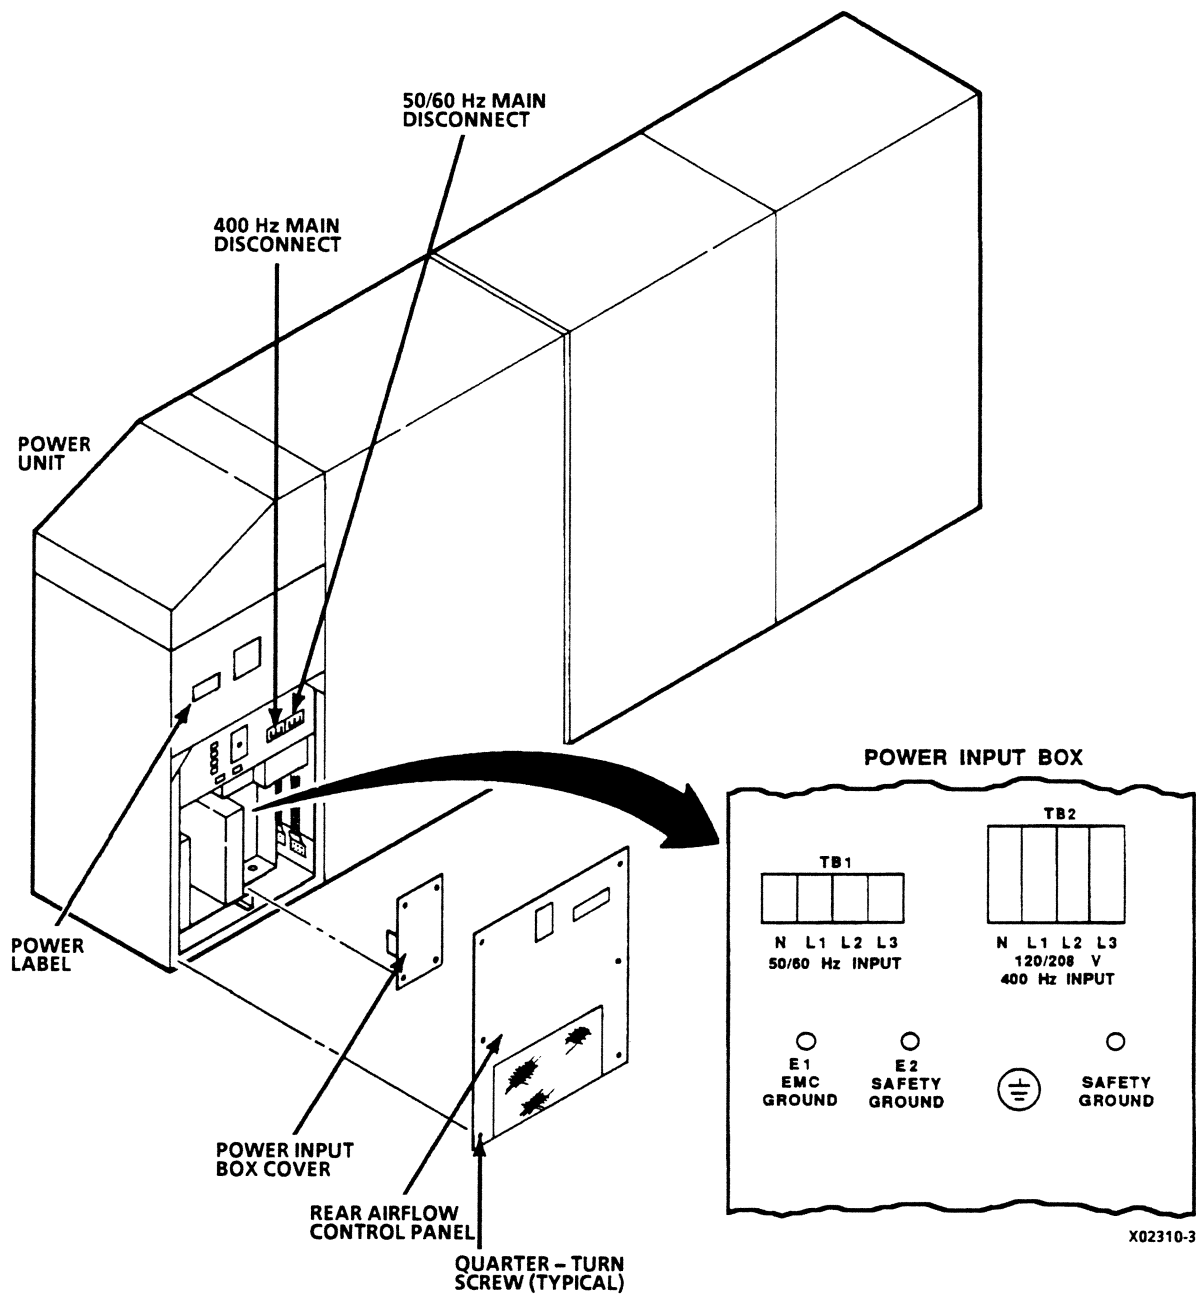

Figure 2-59. Power Unit 50/60-Hz Input Voltage Check
- ___ 2. Remove power unit rear airflow control panel (figure 2-59), if not previously removed. Install panel in a later procedure.